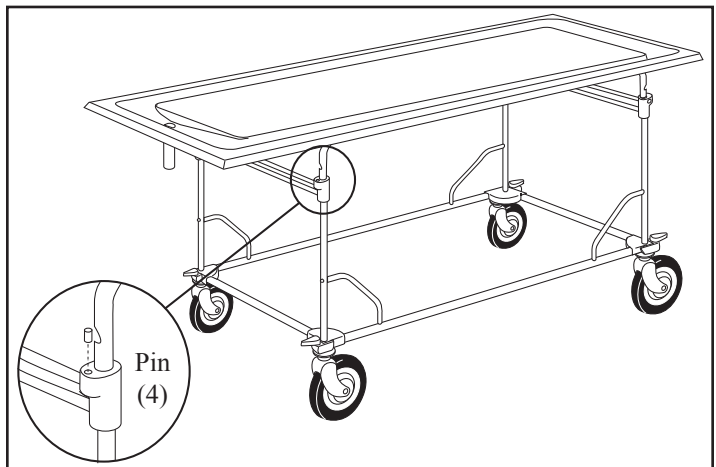

Figure 4 - Remove the Four Pins
1. During assembly and shipping, the ratchet control handles are held in the open position by a small cotter pin inserted in each corner-post casting. Use needle-nose pliers or a small flathead screwdriver to remove and discard the four pins before placing the table in service (Figure 4).